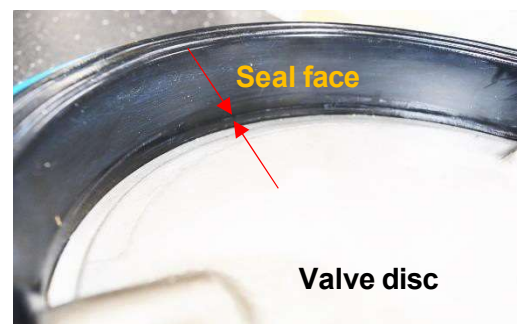

Figure 5
- Loosen the close adjustment screw and turn hand-wheel until the valve disc is in fully closed position. (Special note: Fully closed position for the valve disc is against valve rubber seal face. Do not force disc hard into seal face or seal face could be damaged. (See figure 5))